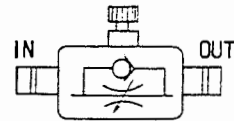

Fig. 5-50-3
- The attaching direction of the speed controller is as shown in Fig. 5-50-3.